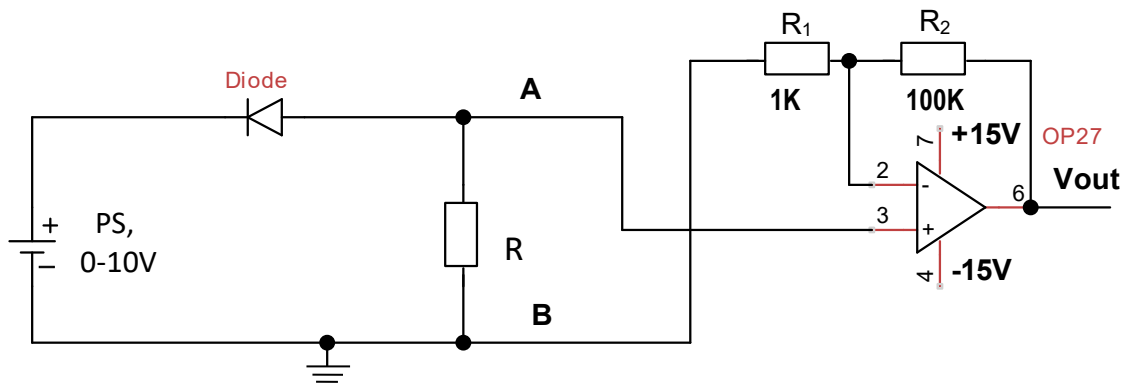

Figure 2. Experimental set up to measure diode reverse characteristics
1. Construct the circuit shown in Figure 2. Make sure that the OP27 is connected to +15V and -15V power supplies and its ground is connected to the ground of the rest of the circuit. Use 1N914 switching diode in the circuit. Measure the amplifier resistors R_1 and R_2 and compute the expected amplifier gain $G_a = 1 + (R_2/R_1)$.
3. Reduce PS voltage to zero and measure output voltage, V_{out} at pin 6 of the OP27 as shown in Figure 2. This voltage (V_{os1}) is due to op-amp offset voltage and bias currents. You may have to use a $100\text{K}\Omega$, $47\text{K}\Omega$, or $22\text{K}\Omega$ resistor for R in the circuit. Recommend starting value of $R = 100\text{K}\Omega$. If R is too large, the op-amp can go unstable when the input is 0 volts, due to feedback of the offset currents through R . To check stability, use a x1 scope probe to measure V_{out} with DC coupling on 5 volts/division scale, when the input is set to 0 volts. If there are large oscillations or noise in V_{out} ($\geq 1\text{V}$ p-p), reduce R to the next smallest value and re-check. Use the largest value of R that gives you a stable V_{out} , as larger values of R give you larger readings on the DMM and therefore increase your measurement resolution. Make sure you measure and record the resistor R .
(a) Diagram of circuit in Figure 2 with the measured value of R. (3 pts)